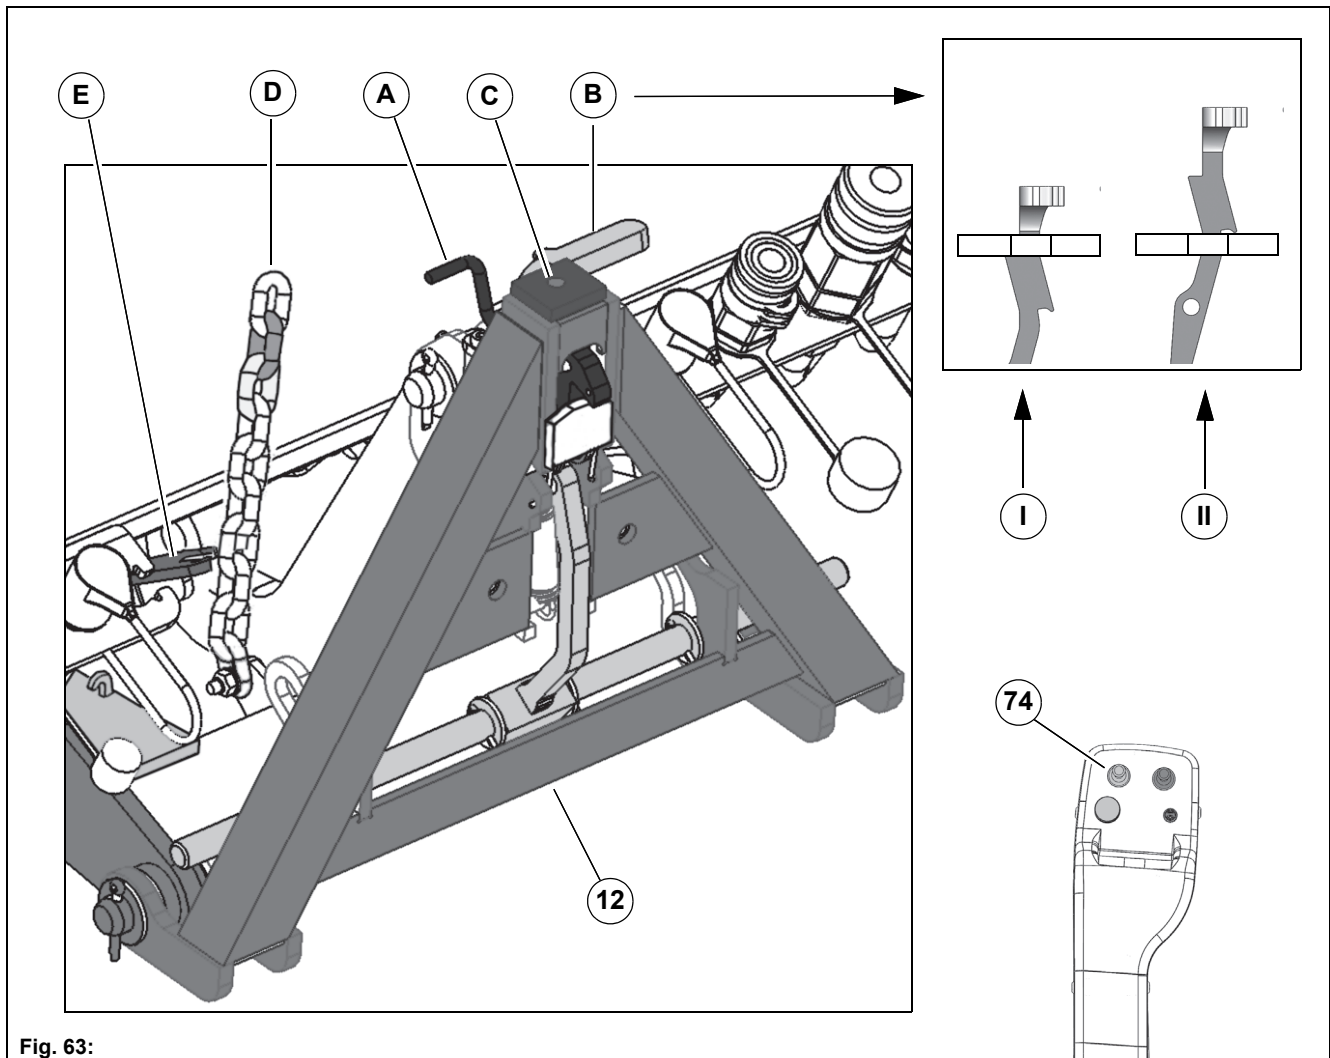

Fig. 63:
Risk of accidents! Front attachments not mounted correctly to the front tool carrier can drop down while driving. Always secure the front attachment with the locking devices **Fig. 63-A and B**. Always secure non-Hako tools with the locking device **Fig. 63-C**.
- 2 Bring the locking hook **Fig. 63-A** into the rear position and the lever **Fig. 63-B** into the upper position (II). Remove the chain **Fig. 63-D** and hook it onto the hook **Fig. 63-E**.